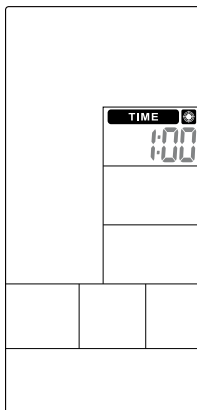

Figure 39
- ① In Standby mode, press Target Time key and **TIME** will light up, along with a long sound for 1s.
- ② TIME value is flashing, press UP and DOWN to adjust value (Figure 39) and press ENTER to confirm meanwhile buzzer beeps 1s and **TIME** lasting lighting up.